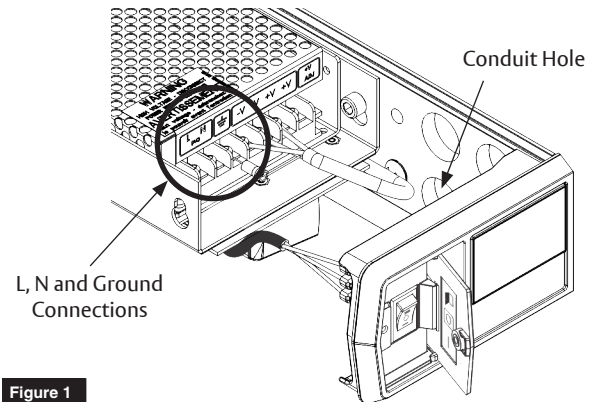

Figure 1
1. With building power feed turned off, route 120VAC wiring through conduit hole in backplate. (Figure 1)
2. Connect 120VAC power to power supply: HOT to "L", NEUTRAL to "N", GROUND to Ground. (Figure 1)